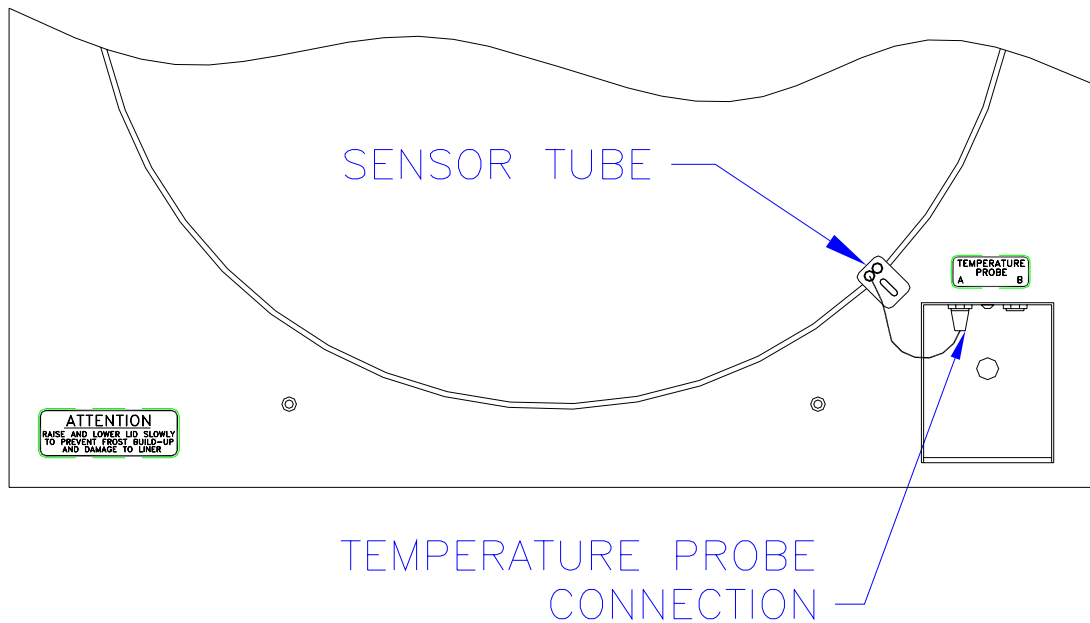

**Figure 12, FRONT PANEL DETAIL XLC/MVE 500/1200 SECOND GENERATION (SQUARE CORNER CABINET)**
6. Remove the bezel that retains the existing front display panel in the top front edge of the lid. Reference Figure 12.